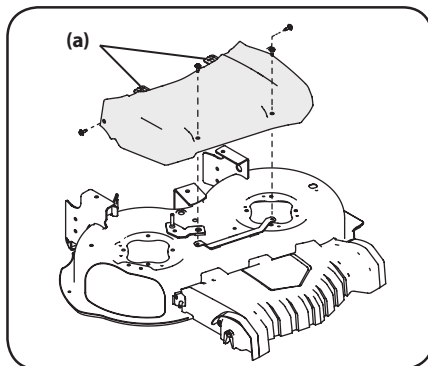

Figure 4-7
3. Place a block of wood between the center deck housing baffle and the cutting blade to prevent the blade from turning when loosening the blade's hex flange nut. See Figure 4-7.